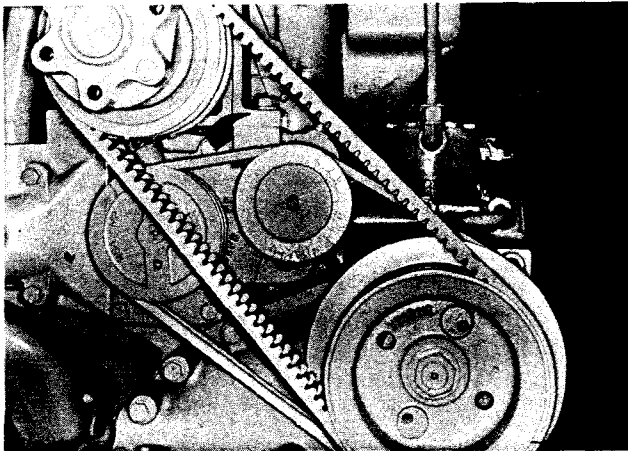

Fig. 2-4, (N11974). Water pump — with idler
1. Loosen capscrews and lockwashers or locknut securing idler pulley to bracket or water pump. Fig. 2-4.